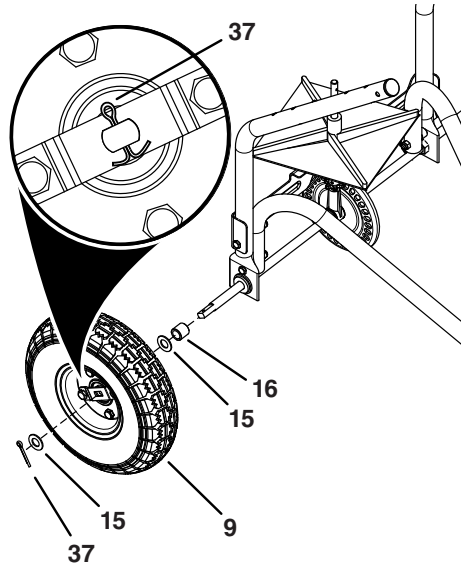

Figure 5
- Slide the spreader impeller (4) onto the spreader shaft and secure it with a 1/8" x 1-1/2" cotter pin (22) making sure to spread the ends of the cotter pin.
STEP 5: (SEE FIGURE 5)
- Slide a spacer (16), a 1/2" washer (15), and the drive wheel (9) onto the square end of the axle.
- Slide a 1/2" washer (15) over the axle and secure the wheel with a 1/8 x 1-1/4" cotter pin (37), spreading the ends.